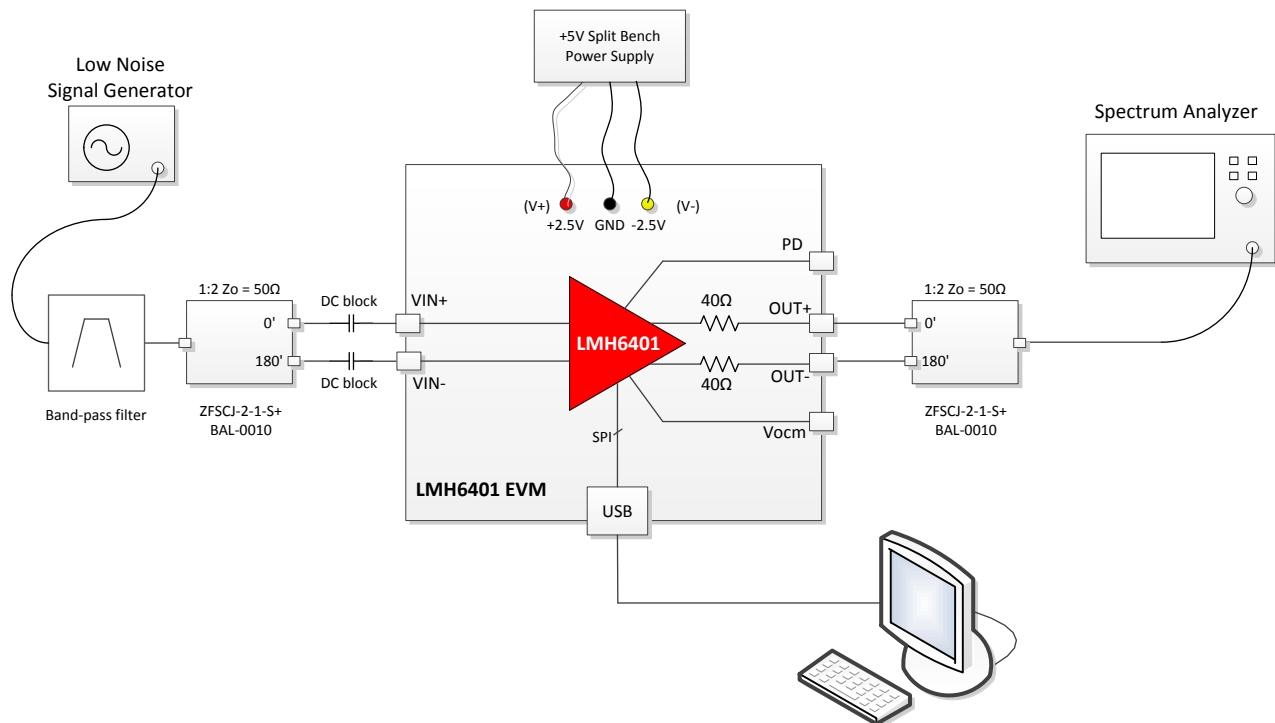

Figure 2. LMH6401 Evaluation Board Setup Block Diagram
Figure 2 illustrates the LMH6401 evaluation board setup block diagram.
1. The LMH6401 evaluation board provides the customer flexibility in testing at different input frequencies using external input and output balun as shown in Figure 2. A good suggestion of low- and high-frequency test baluns is also provided in Figure 2.
1. While the supplies are turned OFF, connect the evaluation board power supply pins (V+, GND and V-) to a split power supply of +2.5 V, GND, and -2.5 V, as shown in Figure 2 using a low-noise bench power supply. Note that supply voltages do not need to be symmetrical, provided the total supply voltage is between 4.0 V and 5.25 V with any combination of positive and negative supply voltages is acceptable, as long as the minimum positive supply voltage to ground is 2 V, or greater.